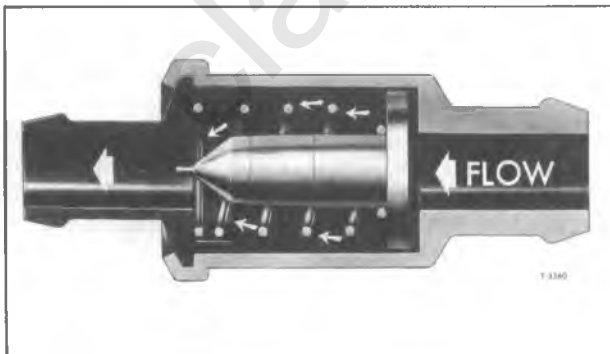

Figure 8—Crankcase Ventilation Valve for In-Line and V8 Engines (Typical)
5. Install new valve assembly, or if valve (fig. 8) is operative, reinstall in rocker arm cover.
3. Install valve assembly (fig. 8) in hose and tighten clamp. Insert valve into grommet in rocker arm cover.